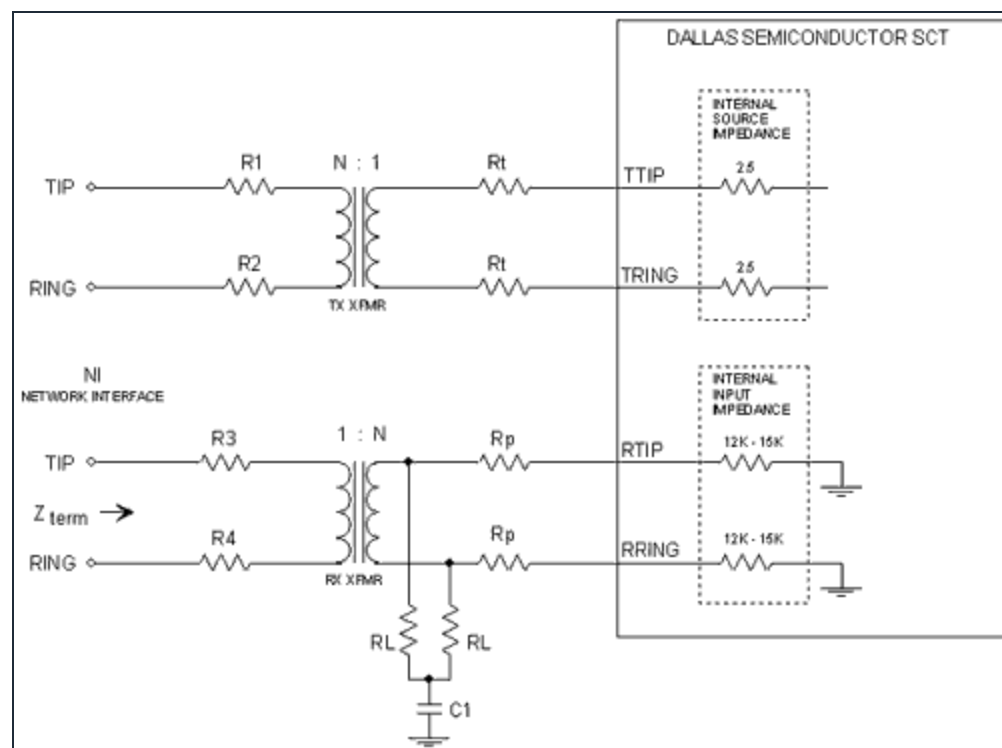

Figure 1. General network interface circuit.
**Figure 1** illustrates a general form of the interface circuit for T1 transceiver chips. Not all of the components are necessary in all applications. This circuit is used to illustrate how to distribute resistance around the transformers. Application note 324 discusses over voltage protection in more detail.